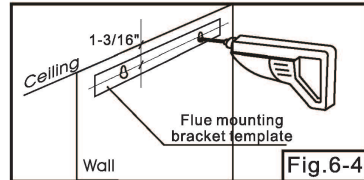

Fig.6-4
11. Rest the flue mounting bracket drilling template against the wall, the vertical centre line printed on the drilling template must correspond to the centre line drawn on the wall. The distance between the ceiling and the horizontal centre line of drilling template is 1-3/16". Drill $\phi 1/4"$ holes at the indicated positions (1 hole each at left and right). (Fig.6-4)